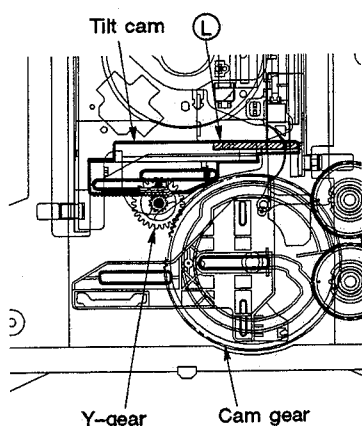

Fig. 2-8
**④ Tilting the Servo-Mechanism Unit**
The Y-gear on the motor base, from ascending of the servo-mechanism unit to clamping, and cam gear are engaged to drive the tilt cam (Fig. 2-8). Since support points from the tilt base are provided on the slanted side (L) (Fig. 2-8) of the tilt cam, tilting is performed by the left/right movements of the tilt cam.